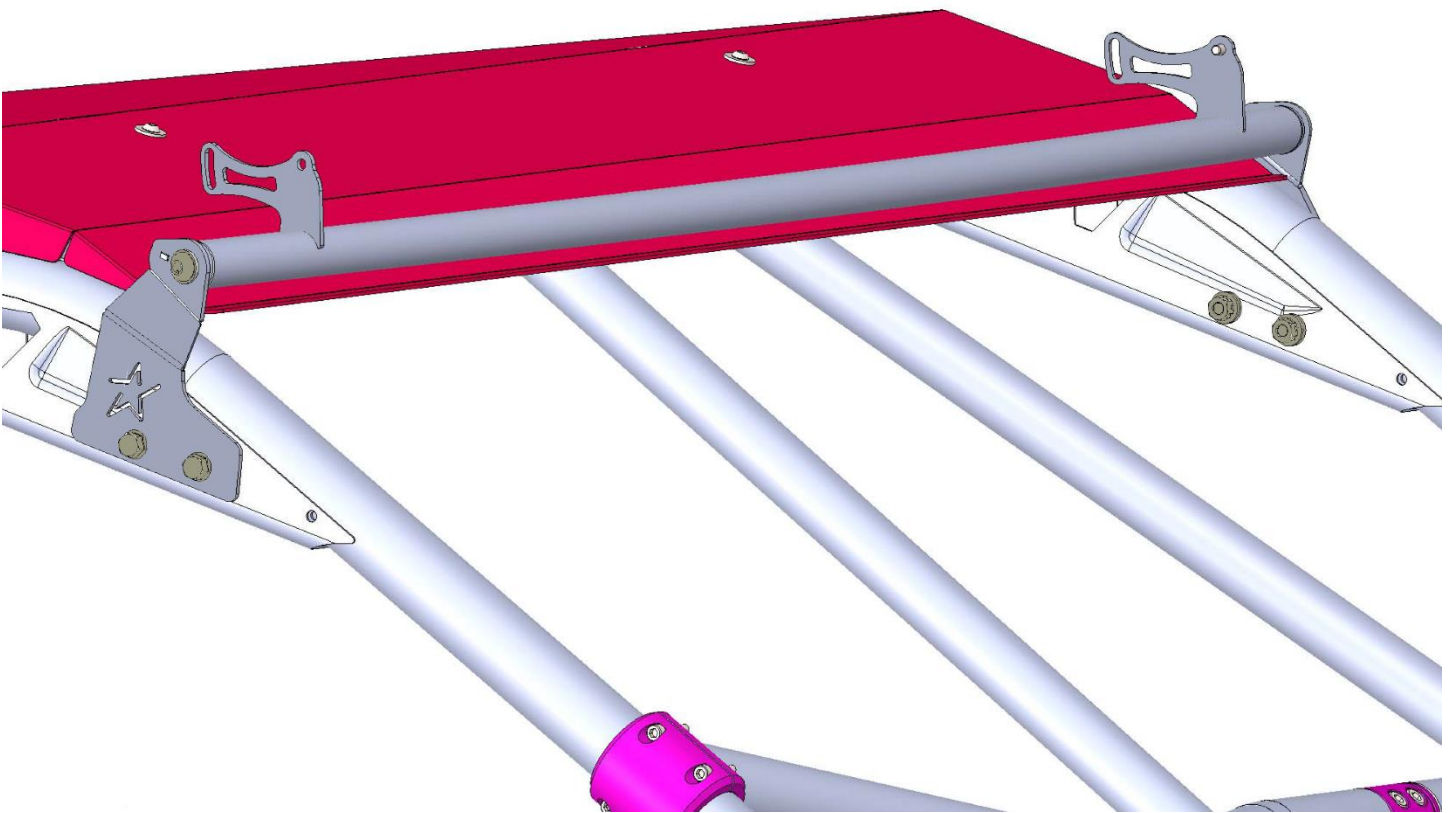

Figure 2-1
2. Attach the light mount tube by inserting the alignment notch with the hole provided in the mounting brackets. Then insert the M10x1.5x20 bolt with an M10 washer into each end and torque to 35 lb. ft.(fig. 2-1)